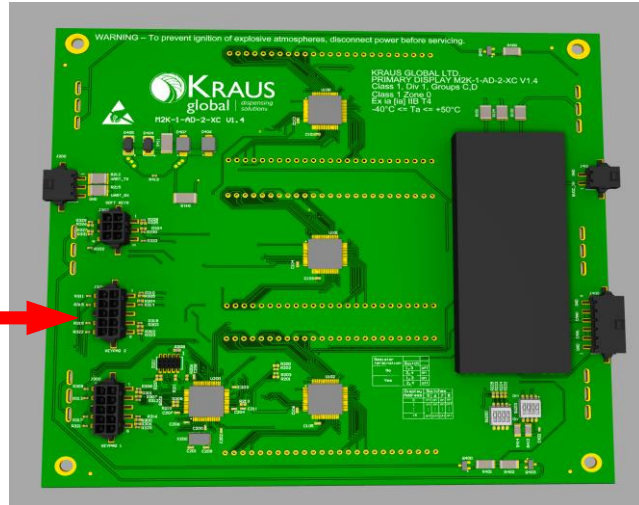

Figure 3.5: Manager Keypad Connector Location
3. Connect the manager keypad to the display on the **KEYPAD 2** terminals. This connection is highlighted below in **Figure 3.5**.
5. Replace the sealing bolts and close the dispenser door. Disconnect the Manager keypad from the primary display (see Figure 3.5).